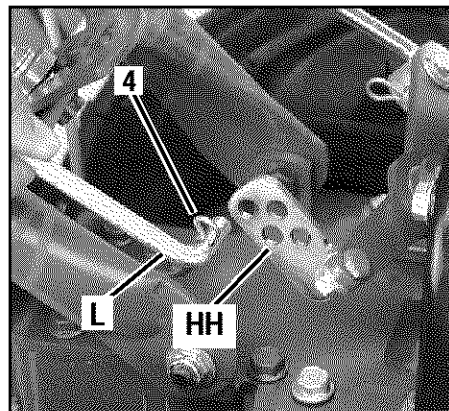

Figure 2-7: Install Forward Clutch rod.
1. The upper end of the Forward Clutch rod is attached to the bottom of the handlebar control panel. Turn the rod (L, Figure 2-7) so that its end points inward toward the clutch swivel plate (HH).